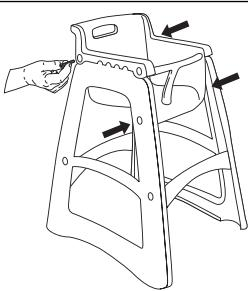

Figure 5
- Insert 7/8" screws through the frame and seat as shown. Use screwdriver to secure. (See Figure 5)